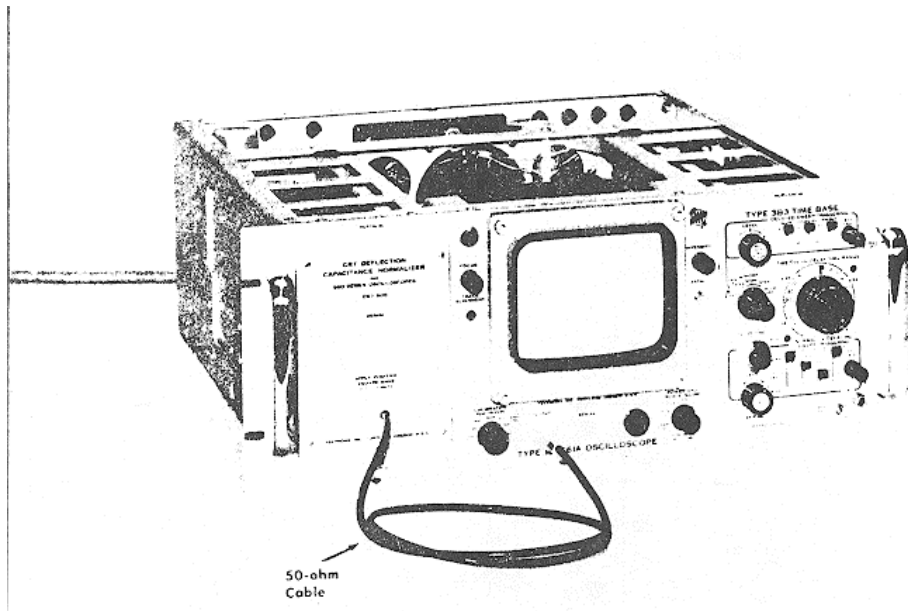

Fig. 6-17. Test equipment setup for vertical and horizontal compensation.
- a. Test equipment is shown in Fig. 6-17.